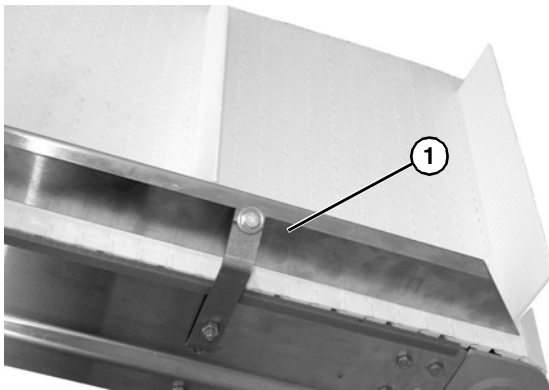

Figure 43
1. Remove guides (**Figure 43**, item 1) when required.